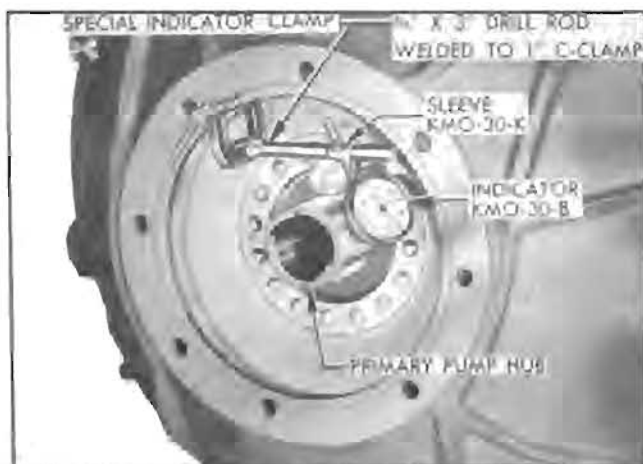

Figure 4-128—Checking Runout of Primary Pump Hub
3. Prepare a special dial indicator clamp by welding a piece of  $\frac{5}{16}$ " x 3" drill rod to a 1" C-clamp. Use the special clamp and Sleeve KMO-30-K to mount Dial Indicator KMO-30-B so that indicator stem bears against the primary pump hub as shown in figure 4-128.